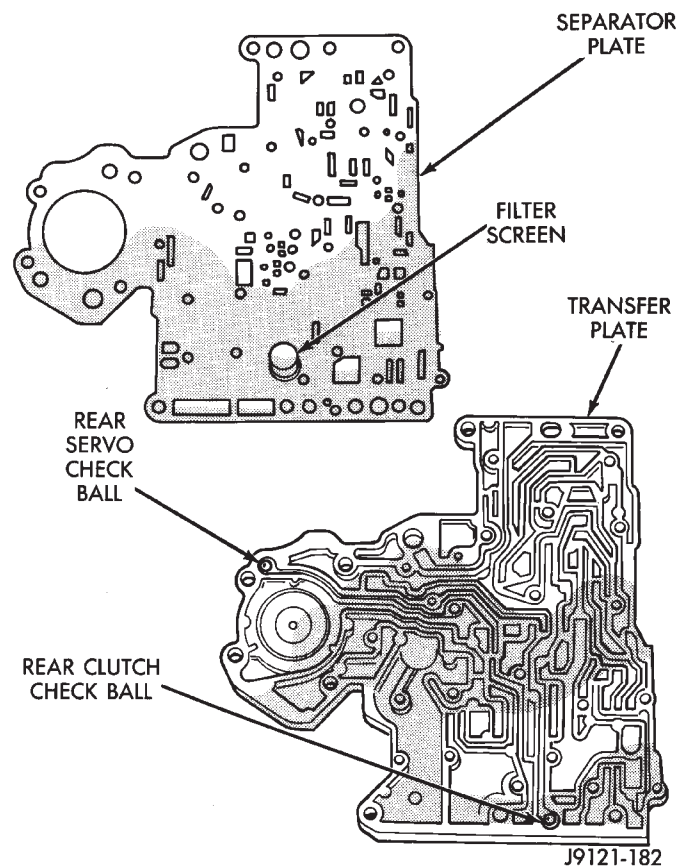

Fig. 115 Transfer And Separator Plates
(16) Note position of filter, solenoid and rear clutch/rear servo check balls for assembly reference (Fig. 115). Clutch and servo check balls will be steel on very early production, or plastic on later production models.